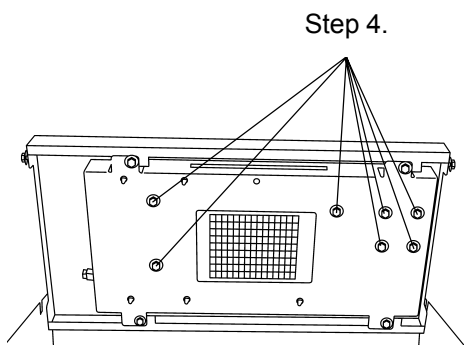

Figure 1
5. Lift up and remove the cover, according to Figure 1.
3. Loosen the two 7 mm screws on the front side of the Cover feeder. Loosen the two 7 mm screws on the rear side of the Cover feeder, according to figure 1.
4. Remove the seven 7 mm screws holding the PWB according to figure 1.